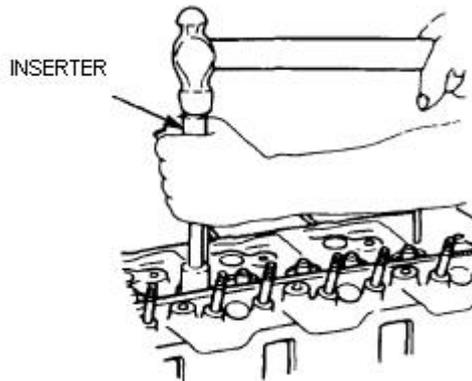

Figure 9 Installing the Valve Stem Oil Seal
- y. Position new valve stem seals over the top of each valve guide and use a hammer and the seal inserter (Table 3, Serial 71) to install each seal (Figure 9).